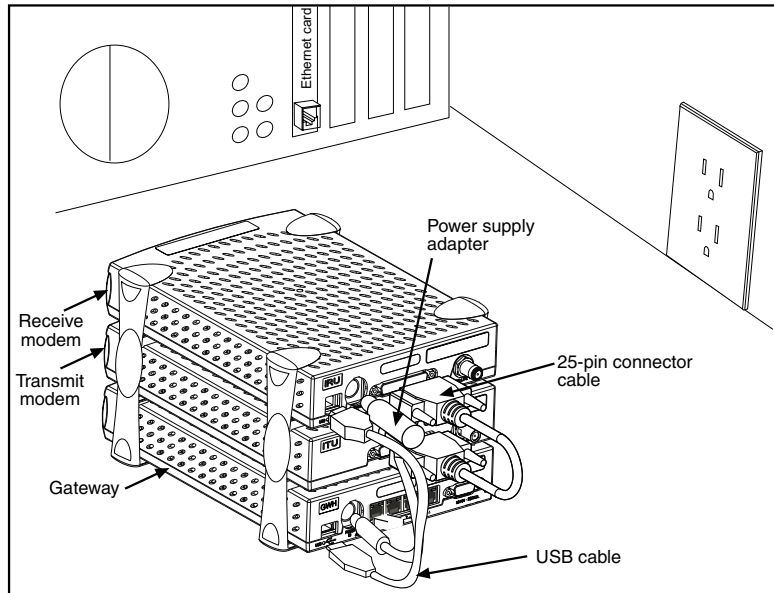

Figure 58: Attach interconnection cables
6. Connect the component interconnection cables. A short USB cable connects the receive modem and the Gateway. A 25-pin connector cable connects the transmit and receive modems. A power supply adapter cable provides power to the Gateway and receive modem (see Figure 58).